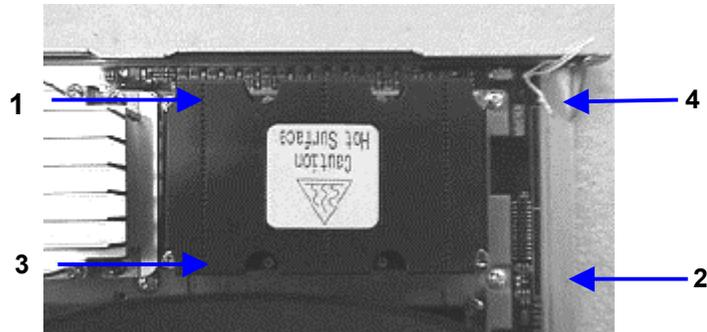

Figure 12. Top View of Processor and Cross-Torque Pattern
7. Locate the four- (4) brass, Castle-head nuts and fasten the nuts to the four- (4) threaded retention studs. Utilize the cross-torque pattern referenced in Figure 12.